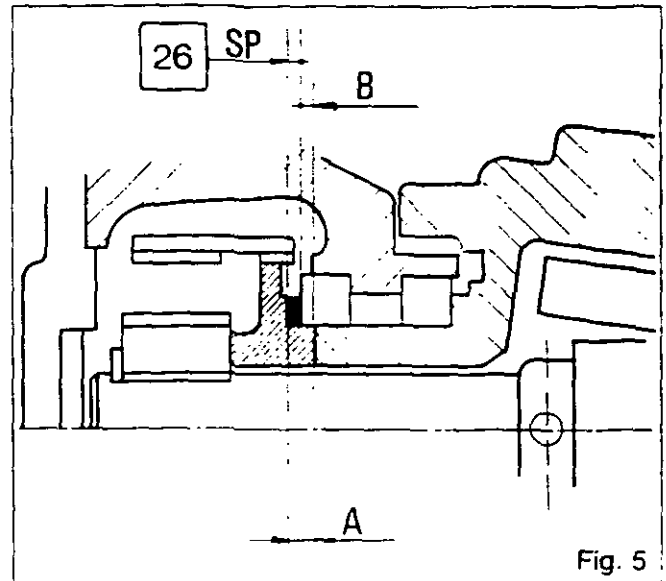

Fig. 5
39. Determine the thickness "SP" of the shims [26] (Fig. 5) to obtain the preload P2 using the formula :